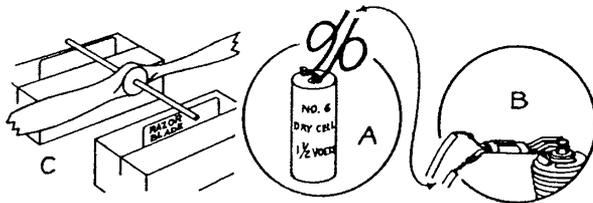

FIG. 2
5. Procure a 1 ½volt dry cell battery, #6 or equivalent, and connect it with 2 flexible insulated wires to a glow plug clip as shown in the diagram A & B-Fig. 2. Do not use a stronger battery. If you do the plug will burn out. The connections should be soldered to ensure good contact and taped to prevent bare ends of wire from getting together and "shortening" the battery. Be sure the battery is a good one. Your dealer sells batteries, wire, and glow plug clips.
6. Balance and trim propeller. This is very essential for good performance. Sand off any bead of plastic along edges of blades. Fit a drill or shaft through the hole and rest the shaft on razor blades set in wooden blocks as shown in C-Fig. 2. Sand the heavy blade until the propeller will balance in a horizontal position. Care must be exercised to do the sanding without spoiling the airfoil characteristics.
3. Connect the battery by snapping the clip on the glow plug. B-Fig. 2.